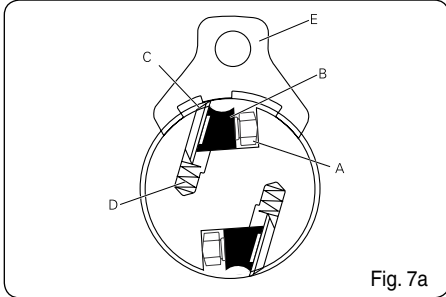

Fig. 7a
REMOVING THE PLANER BLADES (Fig. 7a)
- Loosen the lock bar (B) and blade by turning the lock screws (A) clockwise. The blades are spring loaded, and will push out when the assembly is loosened. (Fig. 7a)
- Take out the blade (C), and then the blade lock bar (B).
INSTALLING THE PLANER BLADES (Fig. 7a)